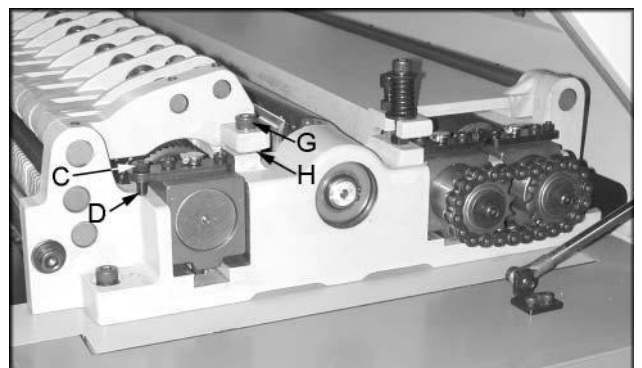

Fig. 15
5. If it doesn't, loosen jam nut (C, Fig 15) and turn the adjusting screw (D, Fig 15) to raise, or lower the in-feed roller until it contact the wood gauge.
6. If it doesn't, remove the socket head cap screw (G, Fig 15) and remove washer (H, Fig 15), or replace with shim of proper thickness to raise, or lower the chipbreaker until it contacts the wood gauge.